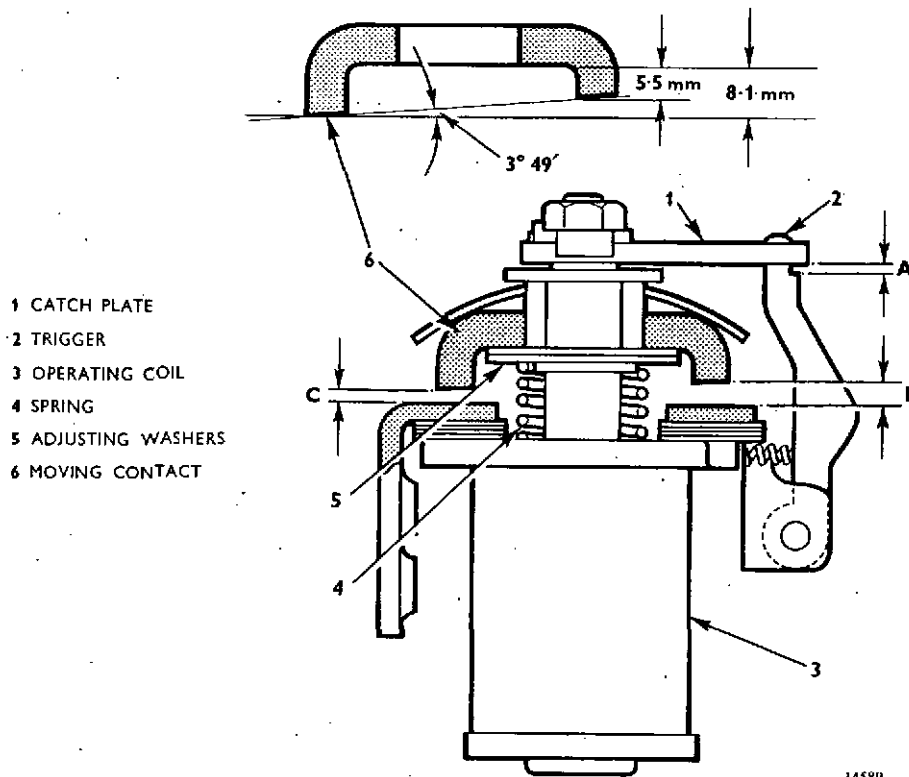

Fig. 31 C.A.V. solenoid switch
Referring to fig. 31, when the starter button is pressed, the solenoid operating coil (3) is energised, drawing in the solenoid plunger until the catchplate (1) rests on the trigger (2) and the first-stage contacts are closed.
Referring to fig. 31, check contact gaps B and C. Limits are: